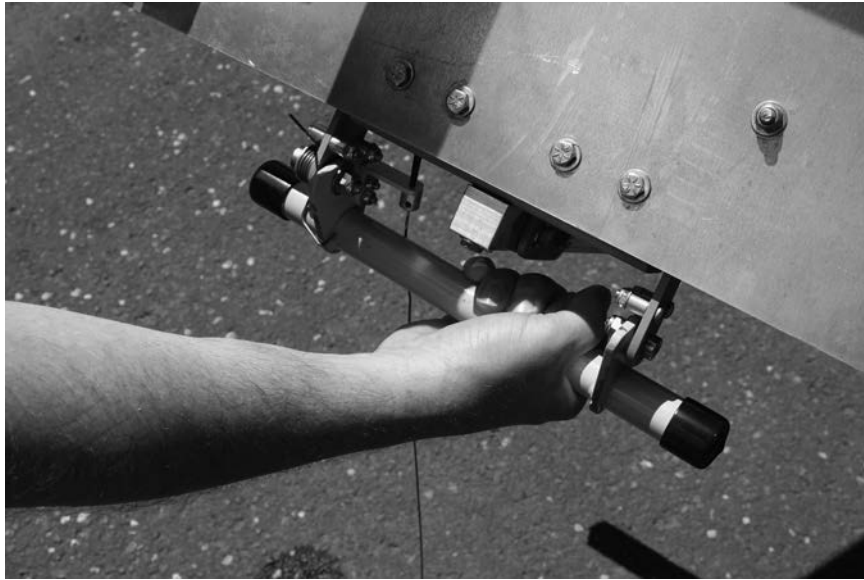

Figure 5 Lock Release Assembly
3. Lift the yellow Lock Release Handle (7) to unlock the Ladder Rack (see Figure 5) and raise the Ladder Rack until it locks back in the horizontal position (see Figure 6).
4. Push the Ladder Rack forward to the stored position. Secure the Pull Handle (11) in the Pull Handle Catch (9).